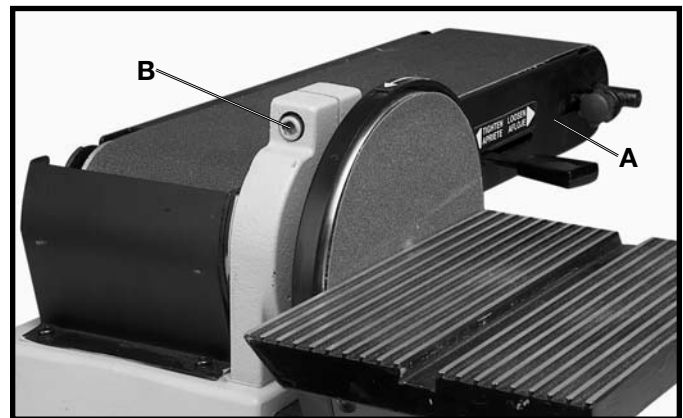
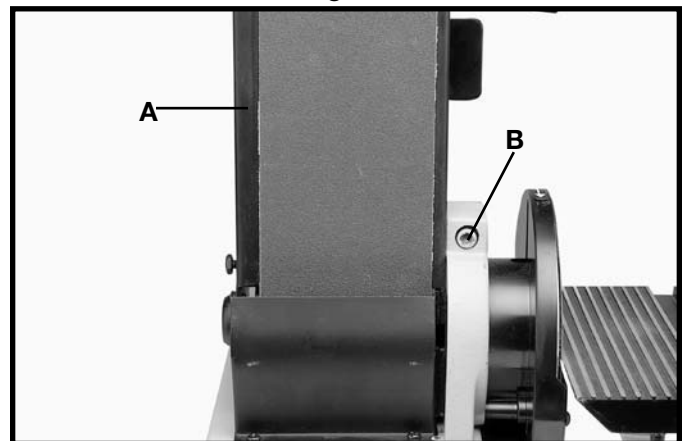

Fig. 25
Fig. 26
2. The sanding arm (A) can be used in the horizontal position, as shown in Fig. 25; vertical position, as shown in Fig. 26; or any angle in between by loosening screw (B), positioning the arm (A) to the desired angle and tightening screw (B).